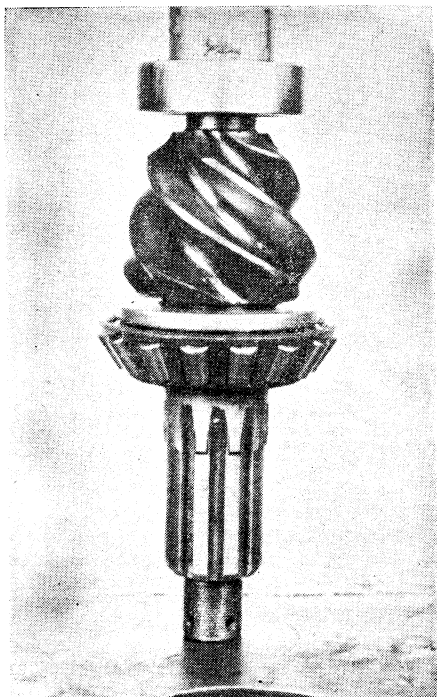

Fig. 104 Pressing pinion shaft radial bearing
1. Press rear thrust and radial bearings, Fig. 104, firmly and squarely against the pinion shoulders with a suitable sleeve.